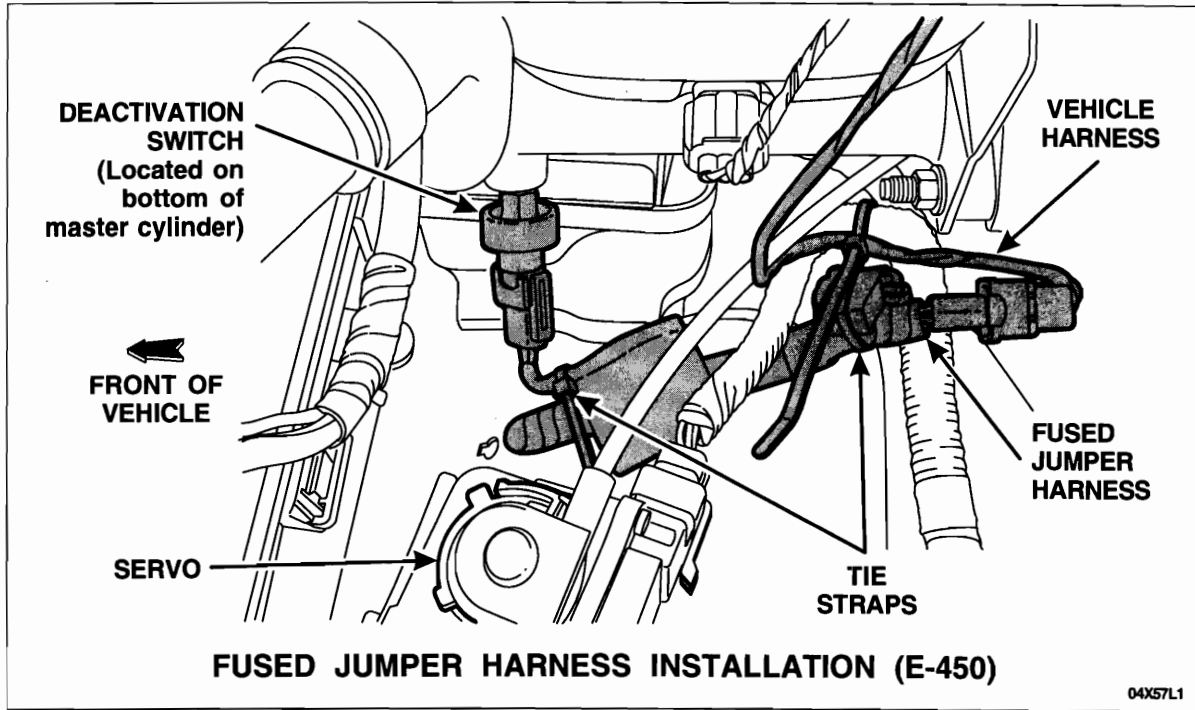

FIGURE 4
2. On E-450 models, secure the 2-wire take out to the larger portion of the fused jumper harness before installation, as shown in Figure 4.